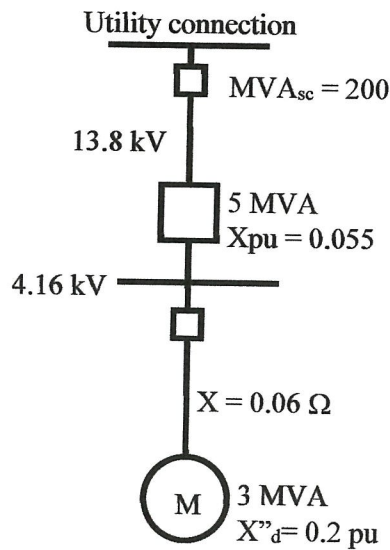

Figure Q5(c)
- Q5** (a) With the help of a waveform, explain any two (2) of the following the terms:
- (b) Explain the principle of operation of any two (2) of the following sag mitigation technologies.
- (c) Assume that the motor depicted in **Figure Q5(c)** drives an air compressor in a manufacturing plant. Find the instantaneous voltage drop at the motor terminals any time the compressor starts. Motor data is given as: